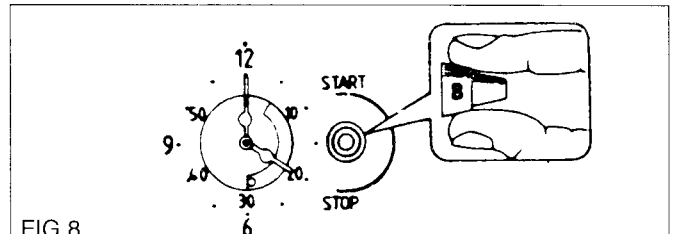

FIG.8
- v) Set the Stop time. Press the stop time button (🚫), while holding it down, depress the increase control (+) and the decrease control (-), until the required stop time is displayed, e.g. 12.15 p.m. Fig. 8